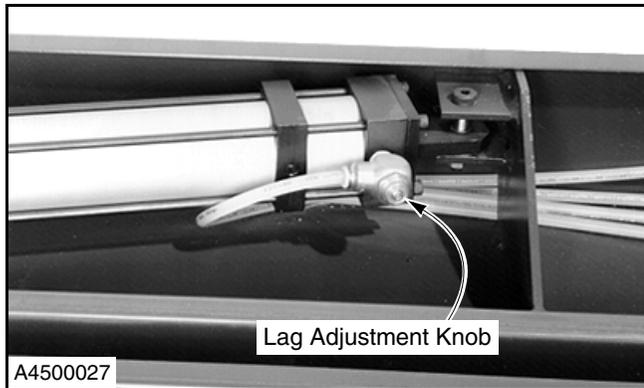

Figure 24
3. Adjust the knurled knob on the lag control located at the rear of the left air cylinder, as required, to achieve the proper lag between the center panels. (See Figure 24.)